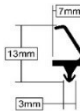

Figure 3
- 1) Take a tube of sealant and fill the channel located along the underside of the door sill (**Figure 3**). Ensure that the threshold surface is perfectly dry and apply the sealant to the door sill